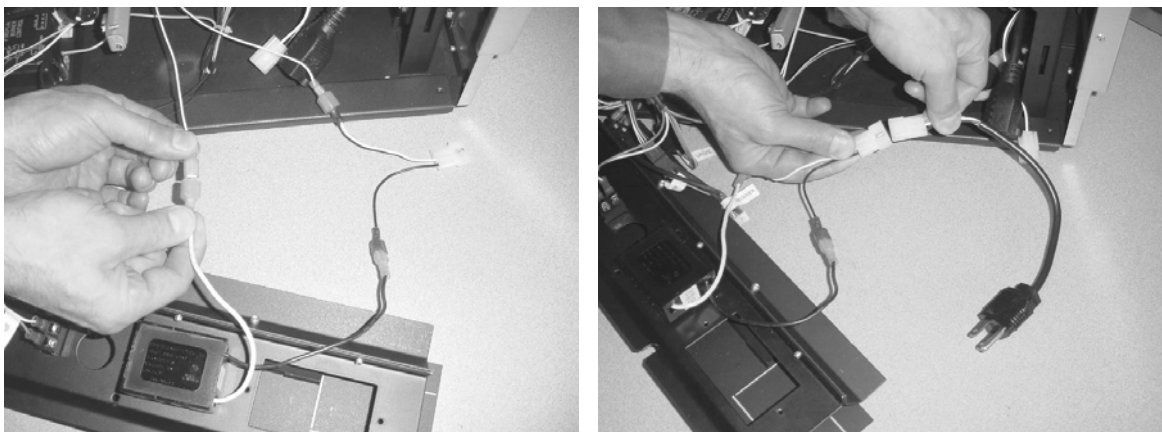

Figure 19
- 16 Locate the accent wires that were disconnected earlier. Connect these wires to the wiring on the control panel. The remote kit includes two power leads. Attach one of these leads to the molex connector for the accent light (see Figure 19 below).